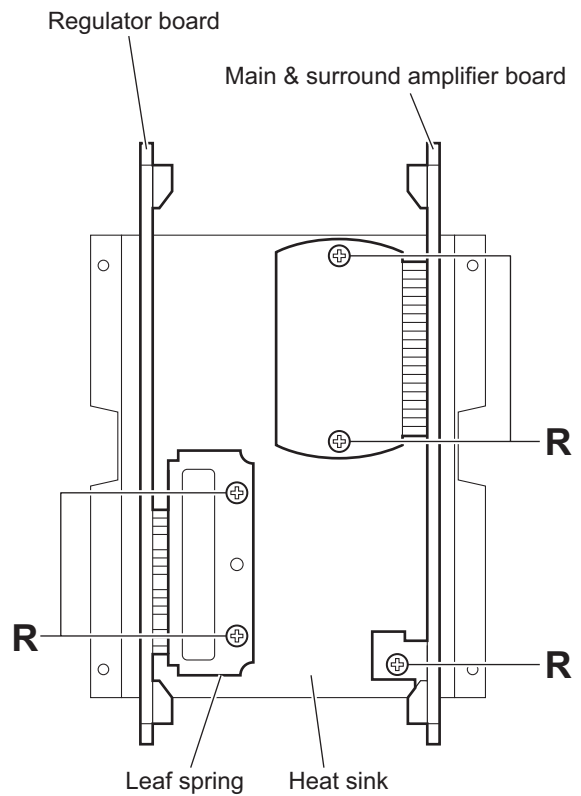

Fig.20
- (2) Take out the regulator and main & surround amplifier boards at the same time from the main body.
- (3) Remove the two screws **R** attaching the leaf spring to the heat sink and remove the regulator board from the heat sink. (See Fig.20.)
- (4) Remove the three screws **R** attaching the main & surround amplifier board to the heat sink. (See Fig.20.)